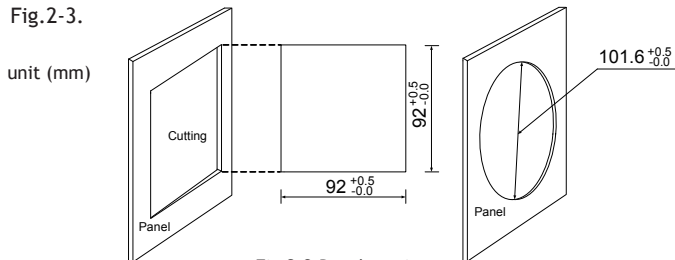

Fig.2-3 Panel cutting
1. firstly, cut a square or round hole which according to the standard of DIN or ANSI on the panel of the switch gear. The cutting size shows as Fig.2-3.